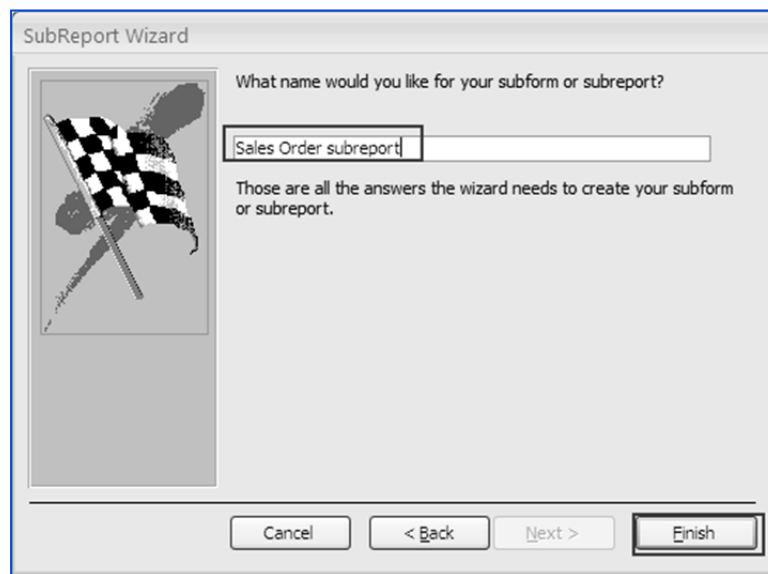

Fig. 2.4.18: Provide a name to the sub report.
- Click *Next* to proceed to *Name of Sub report* window. Provide a suitable name to your sub report, and click *Finish* to close the window as indicated in Fig. 2.4.18.